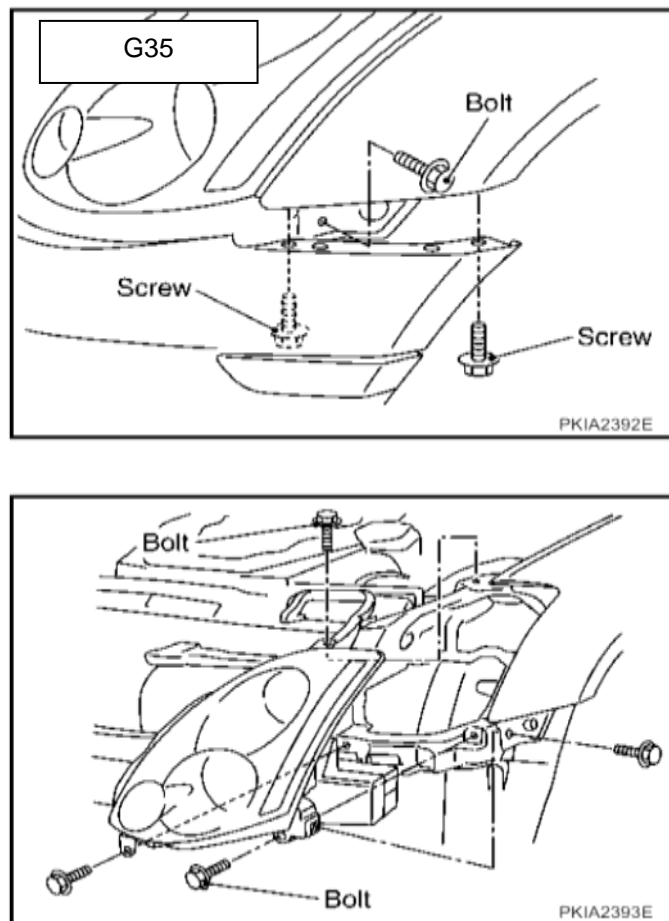

Figure 3
9. Using a 12mm socket and ratchet with a 2" extension, remove the (8) eight pieces of hardware ((4) four nuts, (4) four bolts) securing the Front Crash Bar to the chassis and retain the hardware as it will be reused.
- a. Remove the (4) four screws that secure the Headlights to the Vehicle. *Figure 3*.